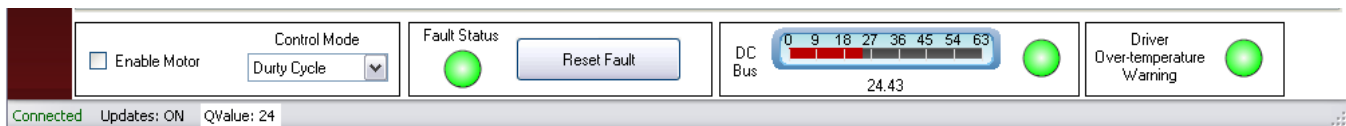

Figure 9. Verify Connection
6. The GUI should automatically connect. Verify by viewing "Connected" in the lower left hand corner (see Figure 9). Also verify that the Fault Status, DC Bus, and Over-temperature Warning lights are green.